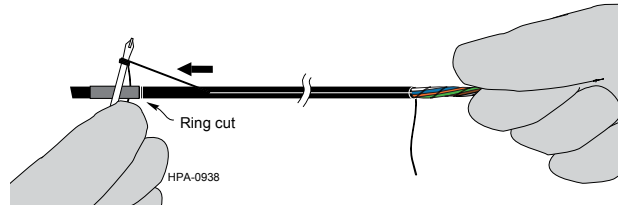

Figure 6
Step 9: Wrap the end of one of the exposed ripcords of around the shaft of a small screw driver and pull it through the outer jacket until it passes through the second ring cut at the tape wrap (Figure 6).